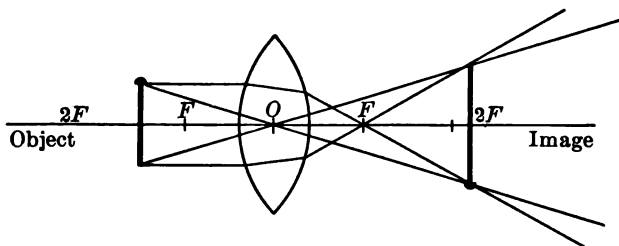

FIGURE 99.—CONSTRUCTION OF IMAGE WHEN OBJECT IS BETWEEN F AND $2F$.
Construct as before. (Figure 99.) The image is (1) beyond $2F$, (2) larger than the object, (3) inverted, and (4) real.